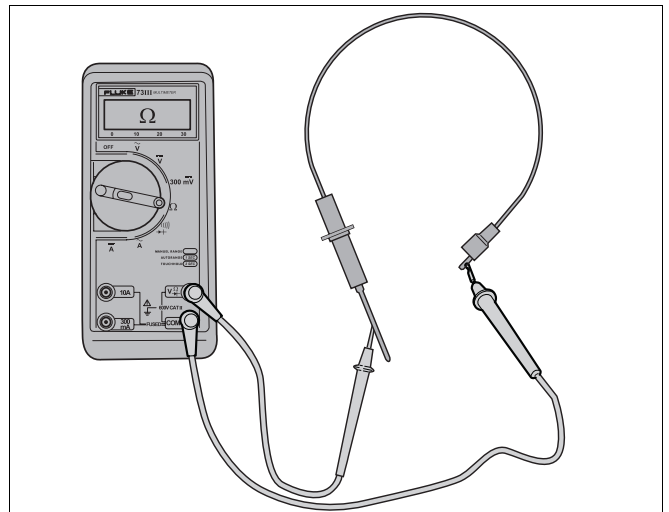

fig. 99 Measure resistance ionisation electrode
- Measure the resistance of the ionisation electrode (→ fig. 99).